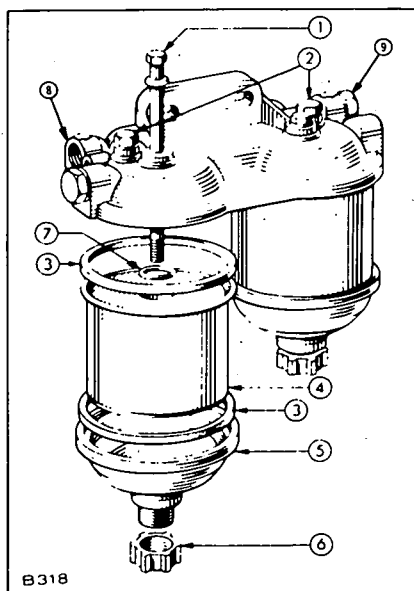

FIGURE 25. FUEL FILTER
1. Open bleed screw on the inlet side of fuel filter. See Figure 25.
4. Open bleed screw on the outlet side of filter. See Figure 25.